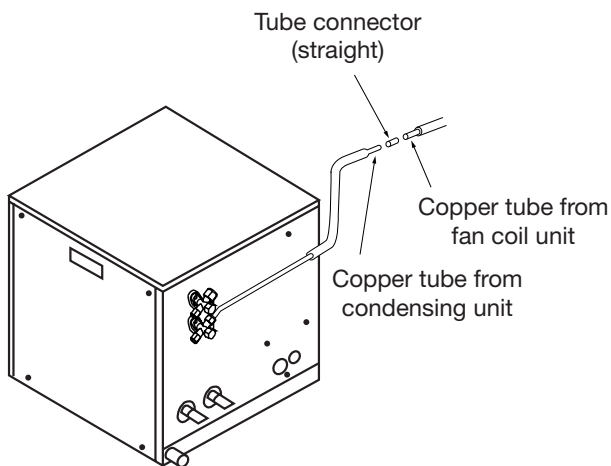

Figure 8
- Use tube connector between copper tube from fan-coil unit and copper tube from condensing unit (Figure 8).